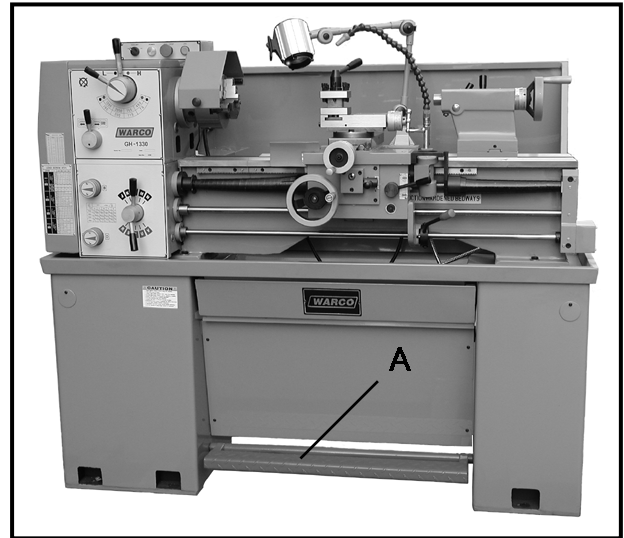

Fig. 18
21. **Foot Brake** (A, Fig. 18) – located between stand pedestals. Depress to stop all lathe functions.